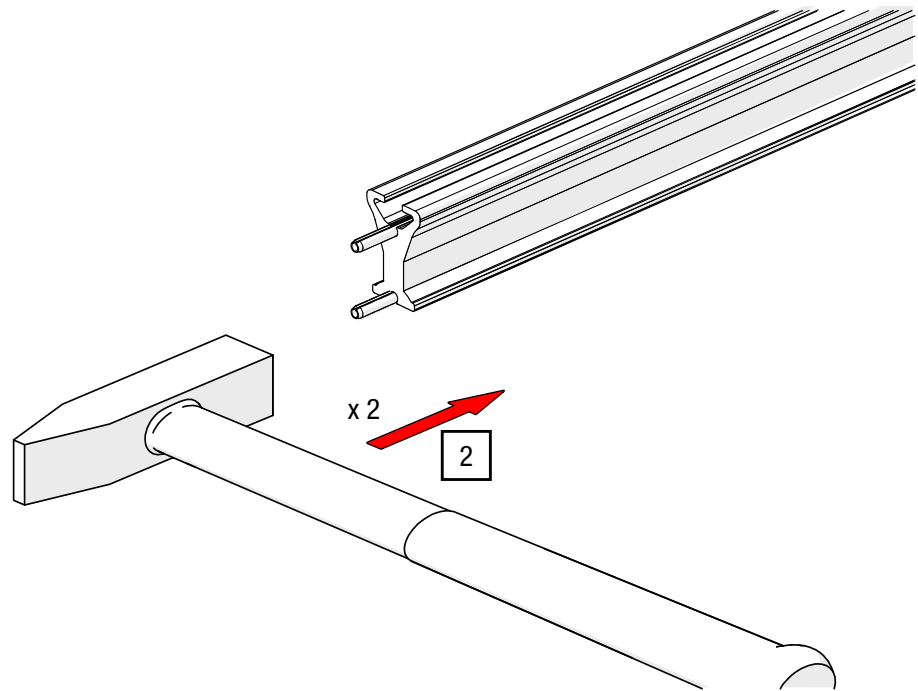

Fig. 26: Track splice – Hammer in connecting pin
2. Hammer the connecting pins halfway into the track (see Fig. 26).